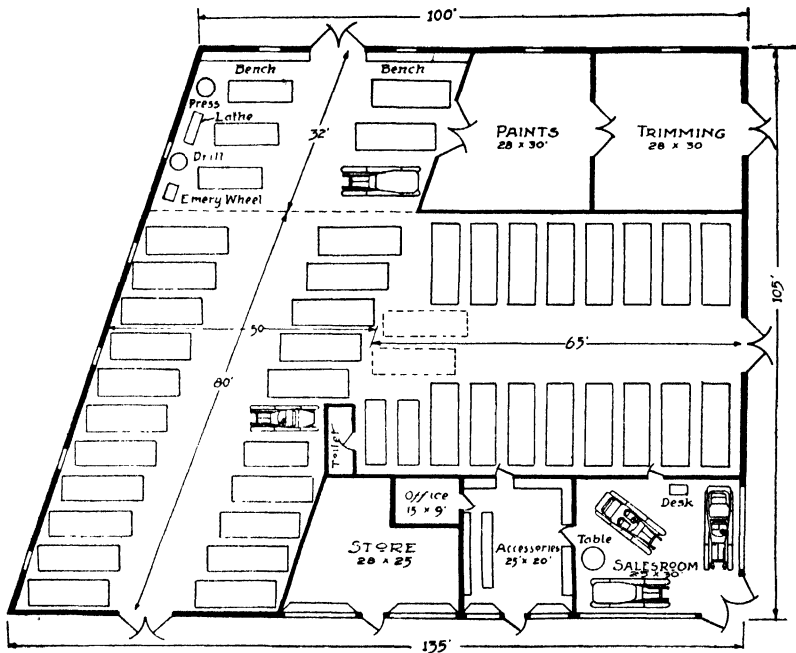
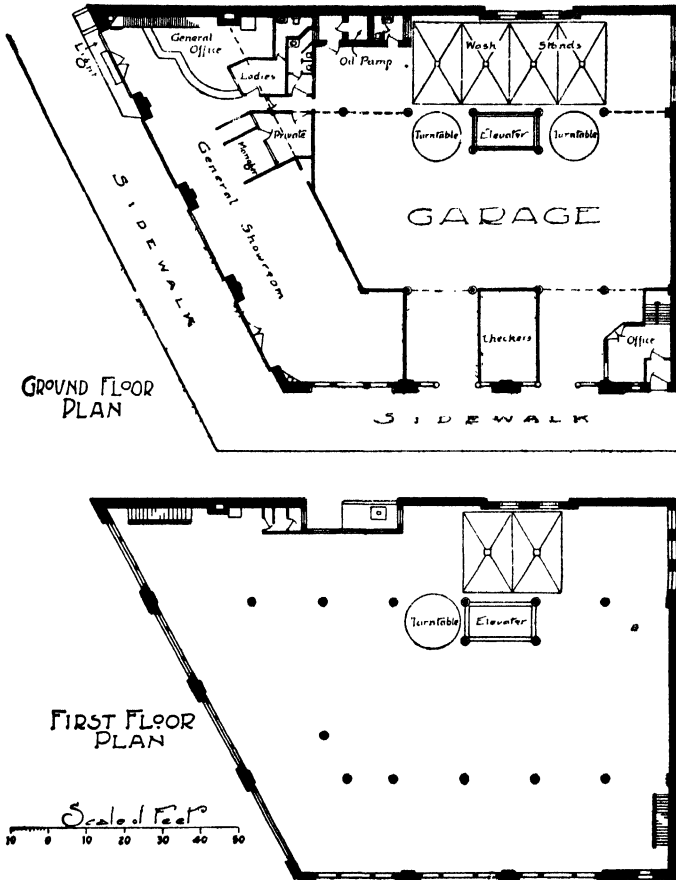

Fig. 11. Combined Garage, Salesroom, Paint, Trim, and Repair Shop on Irregular Corner
Fig. 20. Very Large New York City Garage with Many Unusual Features
*Layout 8.* Both the above arrangements provide for car storage and small accessories only, one having a repair shop, with battery-charging and tire-repair facilities, but neither having car sales space. A layout with slightly more floor space is shown in Fig. 11. This layout is an irregular space having a tapering corner which renders it doubly interesting, and space is provided for painting and trimming, also for a small car salesroom, and for an additional store that could be rented. The car space will store an even 40 cars, while the repair shop provides space for 6 more, and the paint shop and the trim room can accommodate 2 cars each, thus making room for a total of 50 cars in the establishment.
*Layout 14.* Another very large garage is shown in Fig. 20. This garage has a shape not unlike the one shown in Figs. 11 and 12, and the size is not radically different, being 100 feet wide by from 100 to 154 feet long, an average length of 127 feet. It differs from the other in that perhaps 50 per cent of the ground floor space is given over to salesrooms, offices, elevators, and apparatus, and also in having four floors and a roof; the roof is a special feature to be